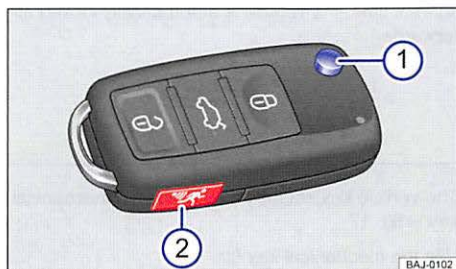

Fig. 16 Remote control vehicle key with panic button.
Pressing button ⇒ fig. 16 ① releases the key bit and folds it out.
- Unfold the key bit on the remote control vehicle key $\Rightarrow$ fig. 16.